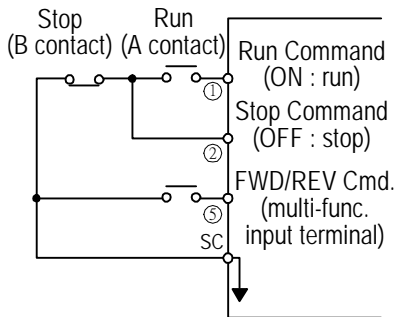

Fig. 36 3-wire mode connection diagram
- Under 3-wire initialization mode (Sn-03= 8 or 10 or 12) , the multi-function input terminals ⑤~⑧ have setting “00”, the inverter will be in the 3-wire mode operation. As shown in Fig. 36, the Forward/Reverse change mode is set at the terminal ⑤.